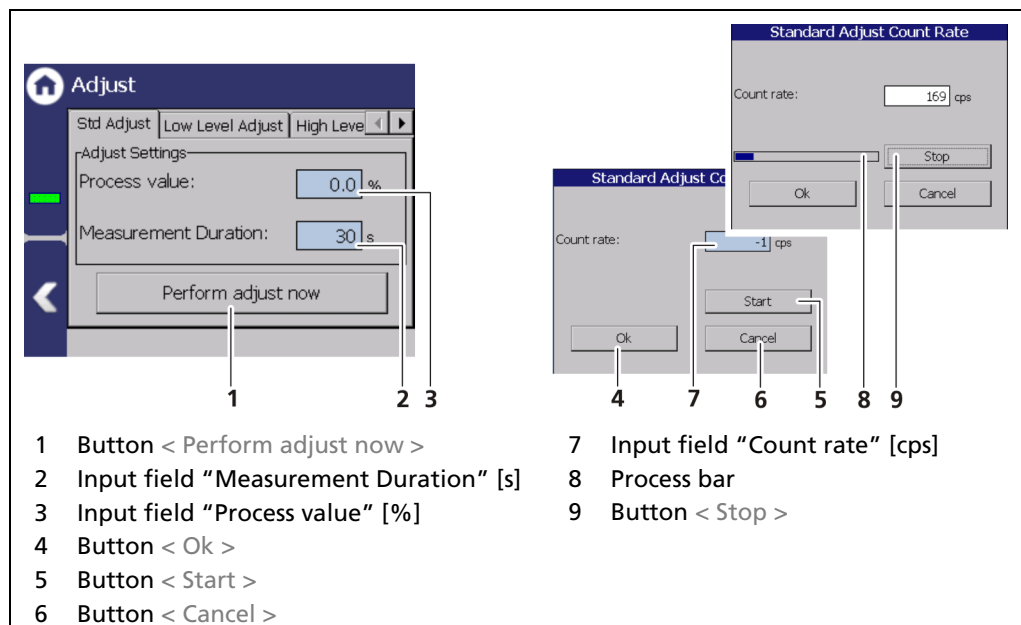

Fig. 86 Standard adjustment
1. Click on the field "Process value" (Fig. 86, item 3) to open the input field.
3. Click on the "Read-In-Time" field (Fig. 86, item 2) and specify the duration of measurement in seconds. The higher you set the measurement time, the more accurate the result. Click
5. Click on the button < Perform adjust now > (Fig. 86, item 1).
6. Click on the button < Start > (Fig. 86, item 5) to start the measurement.
7. Click < Ok > (Fig. 86, item 4) to accept the value.